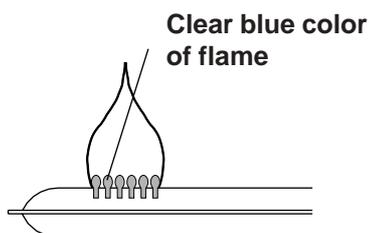

**FIG. 16**
The correct operating pressure is 11 inches of water column. The correct place to take the LP gas pressure is at the test port just ahead of the burner jet. (See FIG. 16).
5. Remove the burner mounting screws and remove the burner assembly. (See FIG. 16).